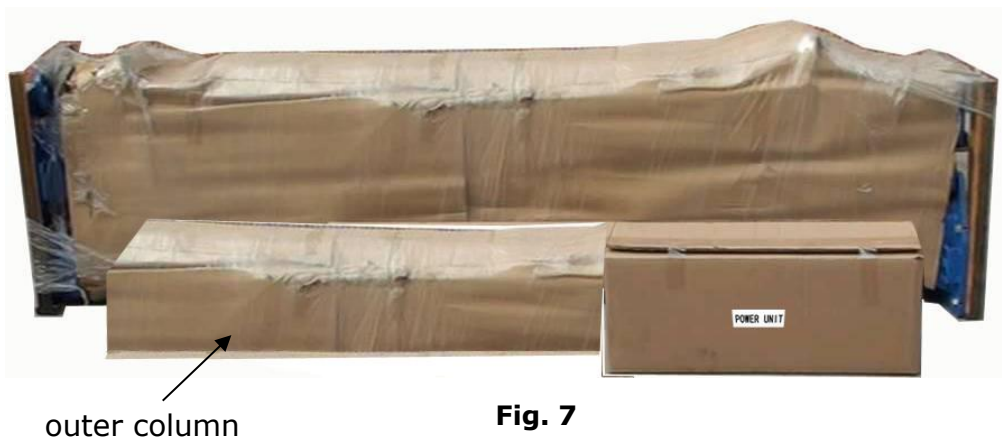

Fig. 7
1. Packaged lift, hydraulic power unit and parts box; (Remark: Outer column is not packed into the machine) (See Fig. 7).